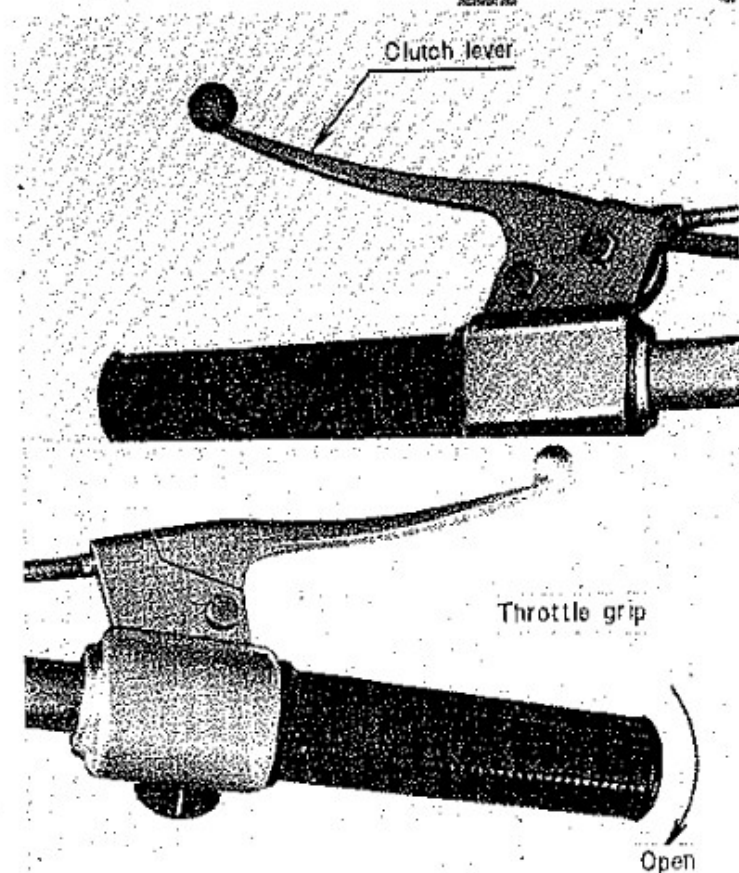

Fig. 5
- (1) When shifting, return the throttle grip to completely close position, grip the clutch lever (cut off), and lightly step on the change pedal. (Fig. 5, 6)
- (2) Gradually release the clutch lever while slowly turning the throttle grip towards you.